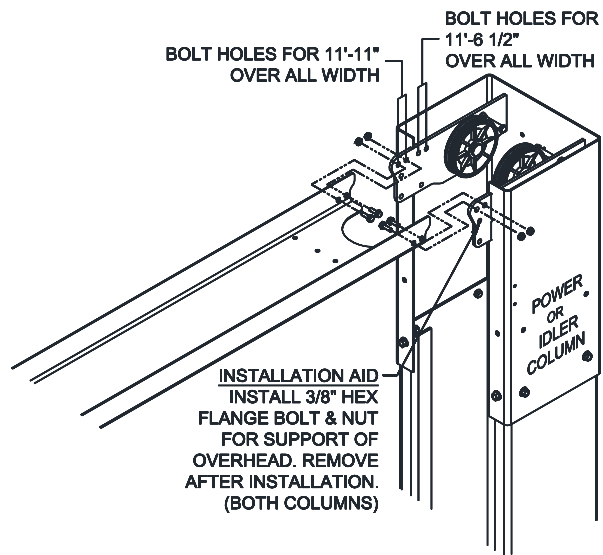

**Fig. 5 – Column Shimming**
- 16) Repeat steps 11 thru 13 for the two (2) anchors under each carriage.
- 17) Shim both columns to plumb using the shims provided as shown in **Fig. 5**. DO NOT shim more than 1/2" at any given point. Use a level no less than 24" in length to plumb columns.
- 20) Check idler column shimming. Use additional shims (*see Fig. 5*) to remove any gaps that may have been created while installing overhead beam. Tighten anchor bolts and recheck column for plumb. Torque to 150 foot pounds.
- 24) At the top of each column extension assemble a 3/8-16 x 3" Lg bolt with (2) 3/8-16 flange nut at each sheave location, **Fig 5**.